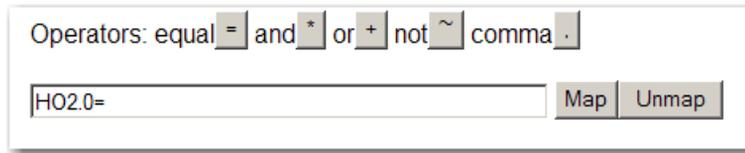

FIG. 266 TARE (HO2.0) AS DESTINATION IN MAPPING FIELD
- Click on the Select button. Tare (HO2.0) appears in the mapping field. (See Fig. 266)